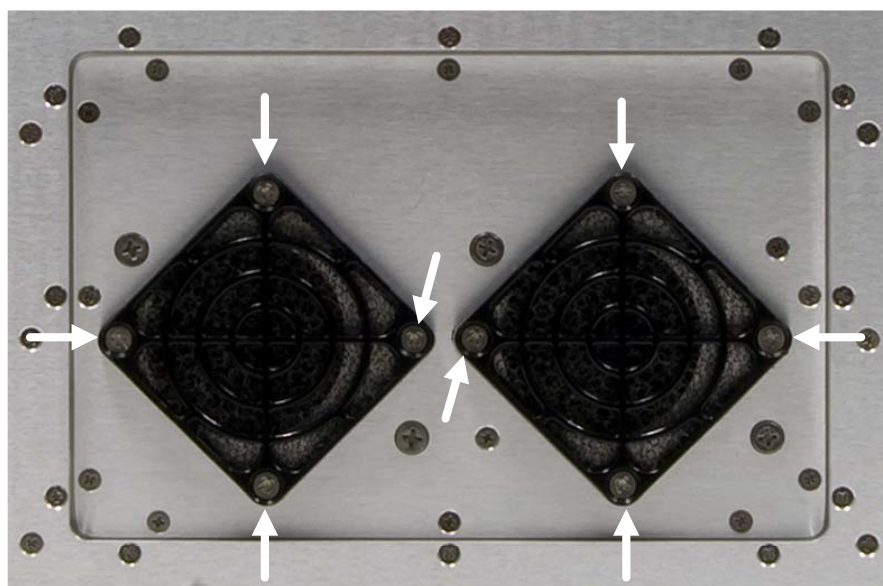

Figure 9-1 Fan Guard/Filter Assembly Retaining Screw Locations
- For each Fan Guard/Filter assembly, remove the four Fan Guard/Filter assembly retaining screws (refer to Figure 9-1 for retaining screw locations) and remove the Fan Guard/Filter assemblies.